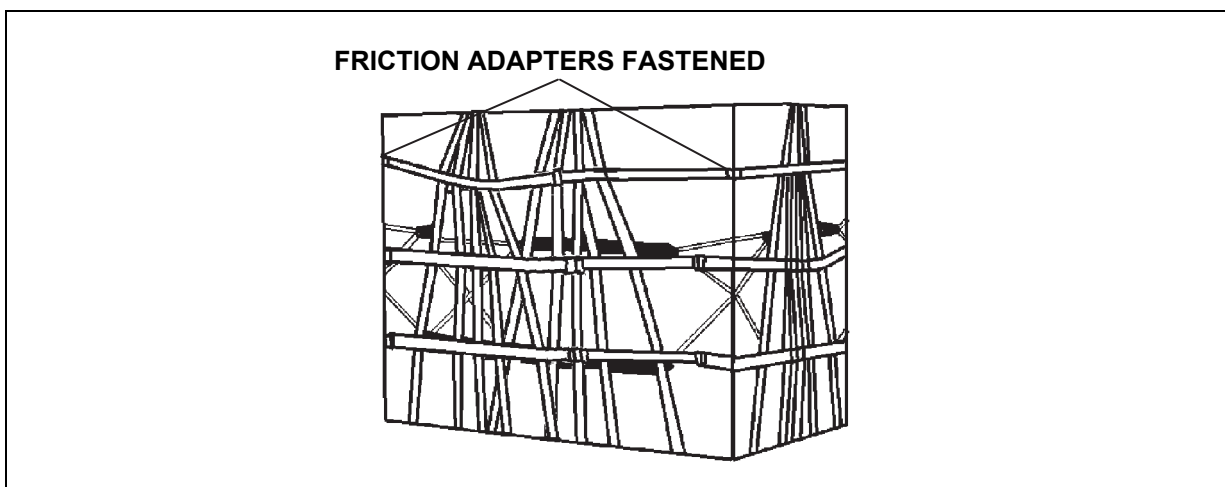

Figure 8-22. Sling Assemblies Fastened
- Lay the remaining portions of the sling assemblies over the load. Route the lateral straps through the friction adapters. Apply equal tension on the remaining lateral straps. Fold and secure the excess webbing with 1/4-inch, Type I cotton webbing (figure 8-22).